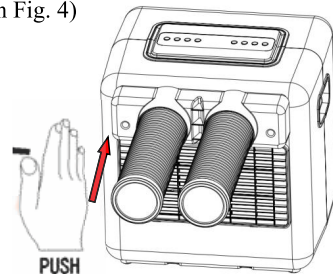

Figure 4
1.2.3 Insert the front exhaust duct components (front internal joint) to the card slot of the front shell (push backward) and fix it with the screws. (As shown in Fig. 4)